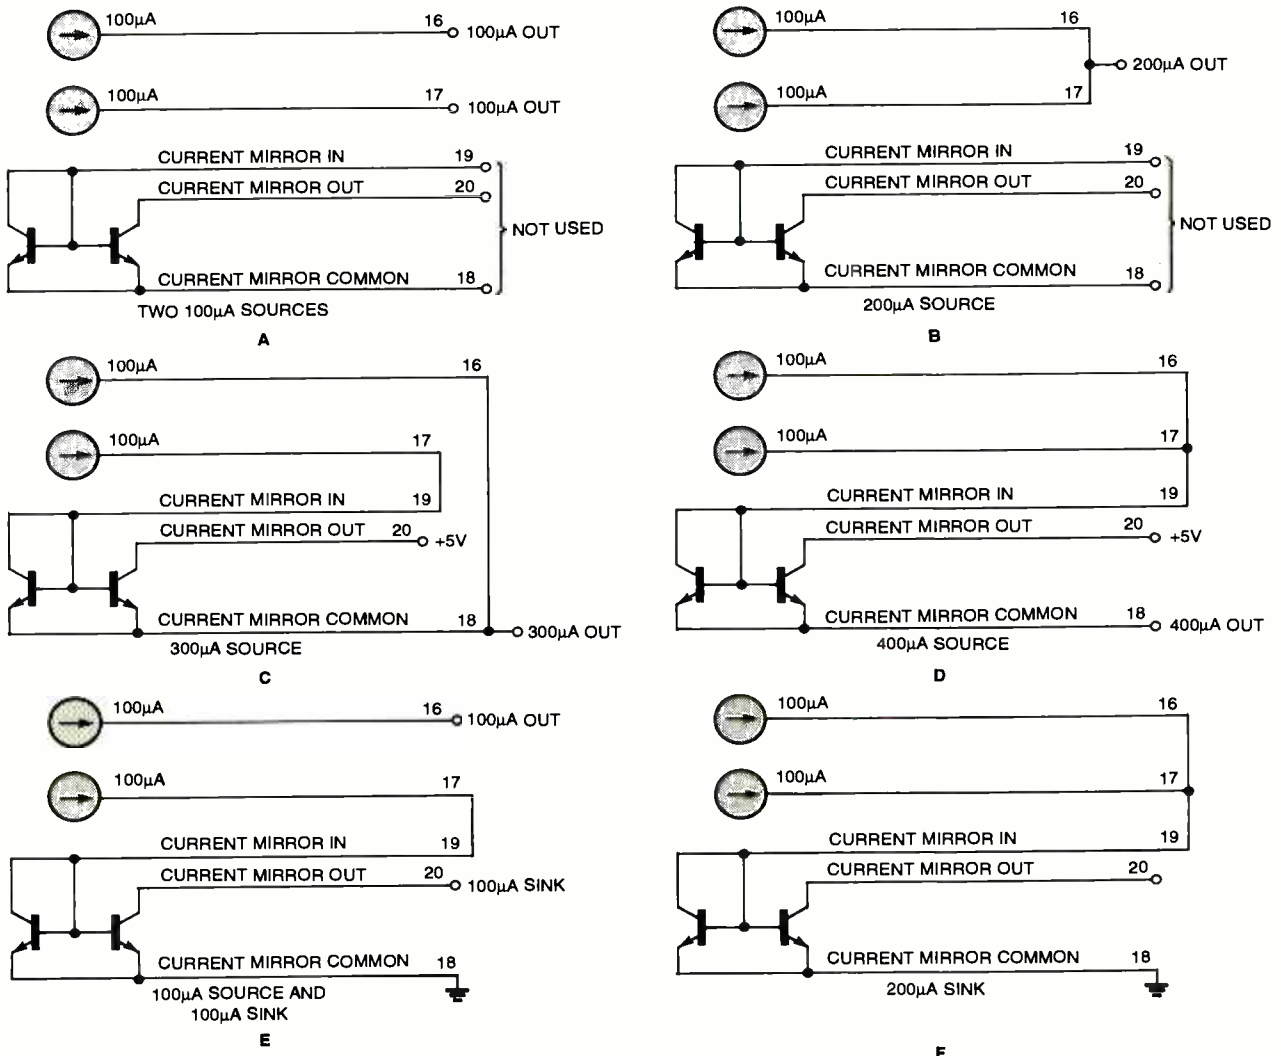

Fig. 5. The current sources and current mirror can be wired to obtain various configurations within the 100- to 400-µA range.
Current Sources. The Universal Sensor Interface uses an REF200 precision current reference to form a pair of 100- μ A current sources and an uncommitted current mirror. Constant-current sources are highly useful for the excitation of resistive sensors. Figure 5 shows various ways in which the current source outputs and the current mirror can be connected to form two 100- μ A sources (A), one 200- μ A source (B), one 300- μ A source (C), one 400- μ A source (D), one 100- μ A source and one 100- μ A sink (E), or one 200- μ A sink (F). The accuracy of those sources/sinks is typically better than $\pm 1\%$, and the voltage compliance is 3.6 volts.